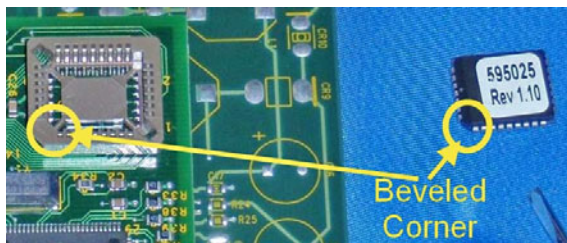

Figure 6. Align beveled corner of the PROM with beveled corner of the PROM socket
- Align the replacement PROM on the socket so that the beveled corner of the PROM matches the beveled corner of the socket (Figure 6). Gently push down on the PROM until it snaps into place in the socket. If it becomes misaligned or difficult to push, stop and start over. Once the PROM snaps into the socket, it is installed.